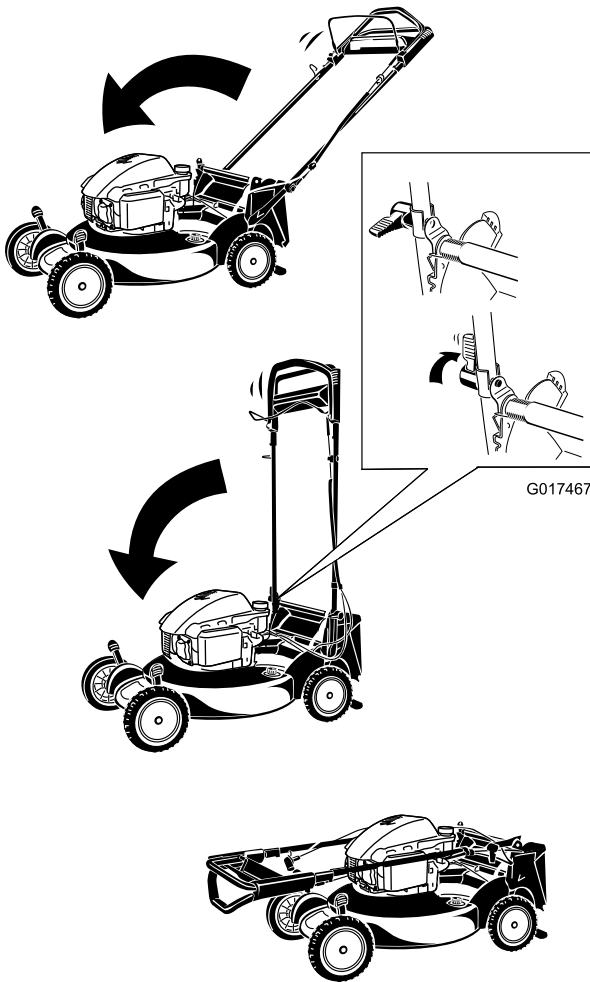

Figure 23
1. Rotate the handle forward (Figure 23).